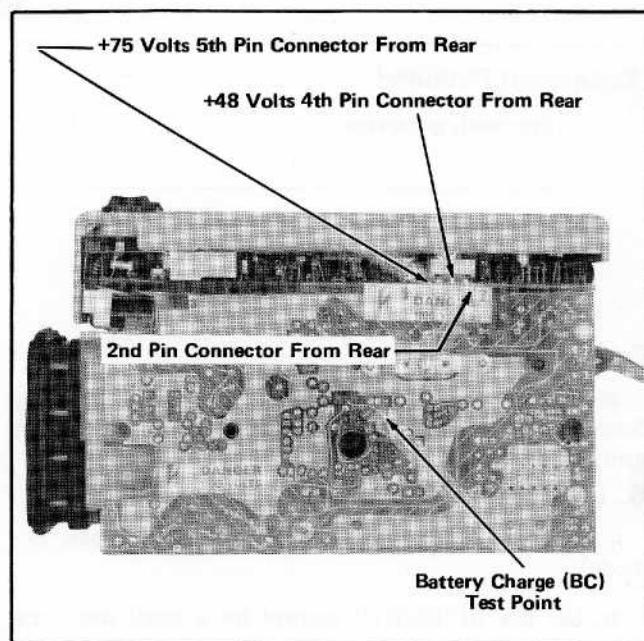

Fig. 5-2. Location of the +75 volt, +48 volt and the battery charger test points.
- Connect the common lead of the digital voltmeter to the second pin connector on the power supply board. Connect the other lead of the digital voltmeter to the BC test point. See Fig. 5-2.